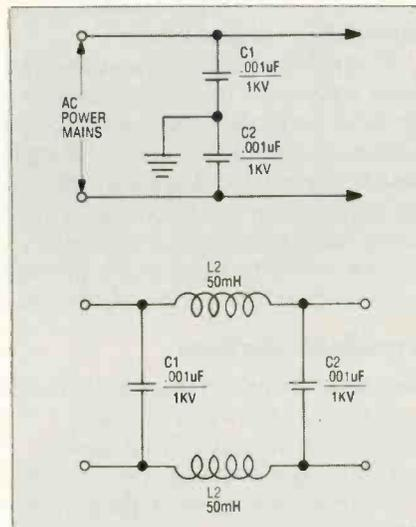

Fig. 4 RF filter for ac power lines
**Power Line Entry:** 1. Install an RF line filter (Fig. 4) in the ac line. This filter must be located as close to the point the ac cord enters the chassis as possible.